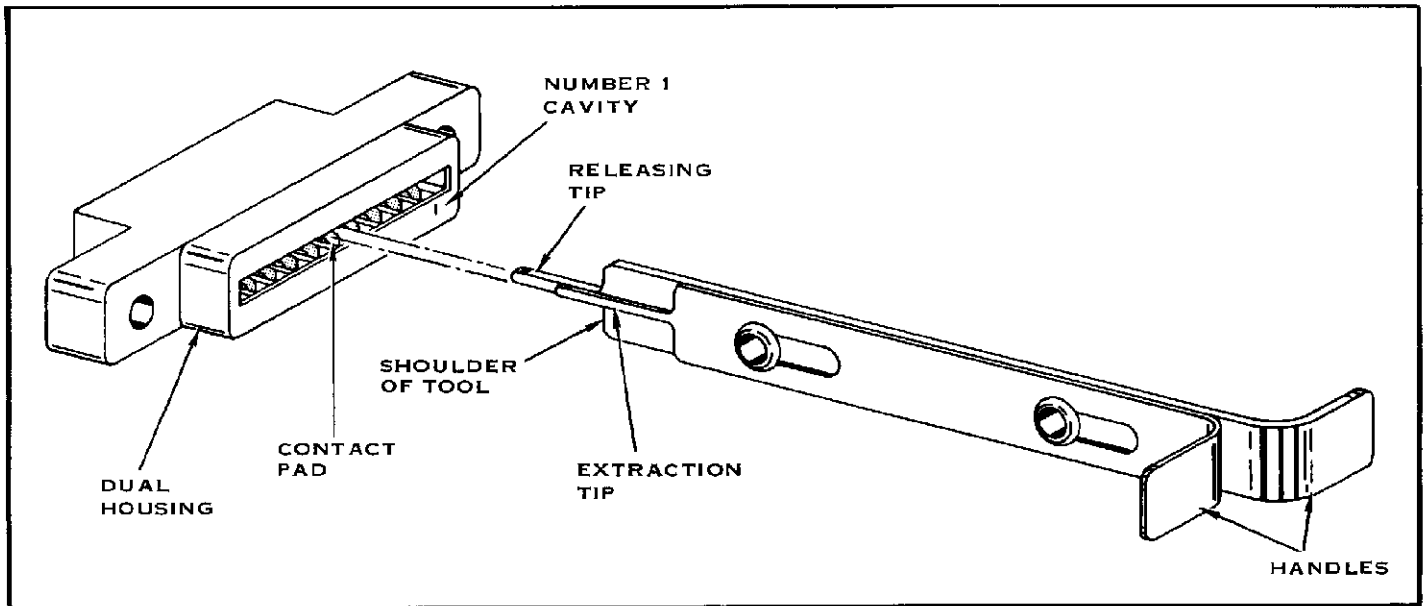

FIGURE 1
The A-MP Extraction Tool 91018-1 is designed to remove Female Contacts from AMP-TAB (Dual) Housings. See Figure 1.
- Slide the Extraction Tip back so the Releasing Tip is extended, then center the tool between the Contact Pads as shown in Figure 1.